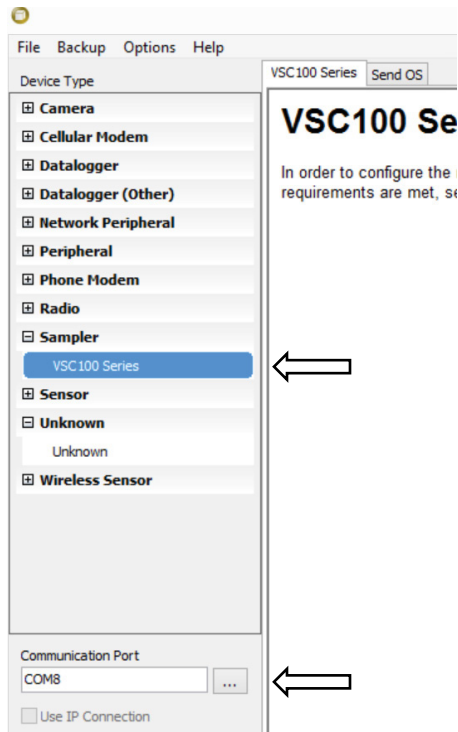

FIGURE C-4. Device Configuration VSC100
2. Open *DevConfig*. Select **VSC100 Series** under the **Sampler**. Click **Communication Port** and select the correct COM port. Click **Connect** (FIGURE C-4).